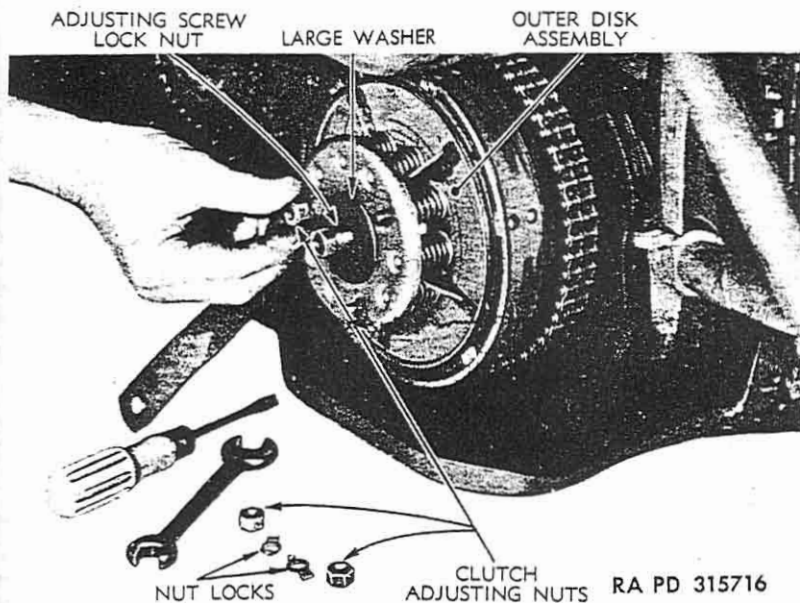
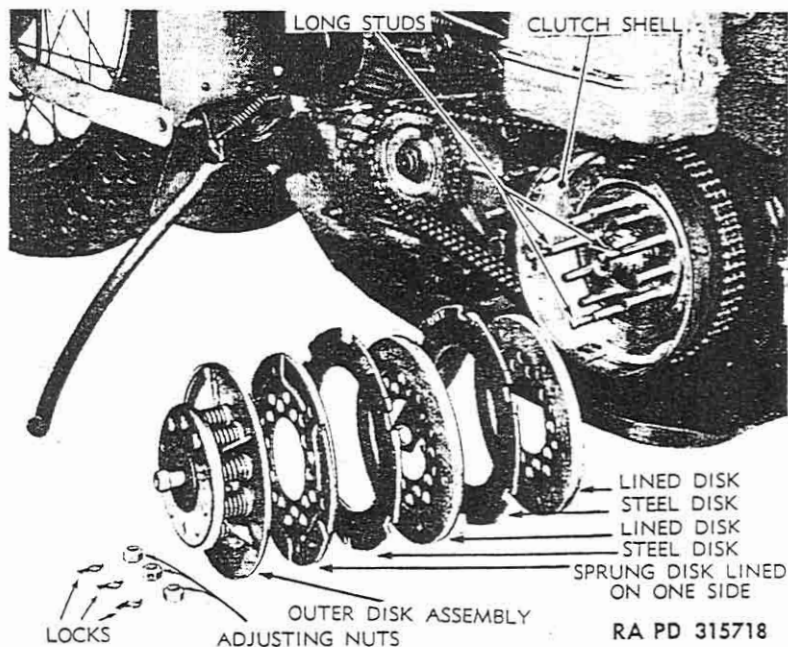

Figure 28—Removing Spring and Outer Disk Assembly
Figure 30—Clutch Disks, Removed
(7) If clutch still does not hold, after correct control and spring tension adjustments have been made, clutch "pack" assembly must be replaced (par. 49).
(8) After making clutch spring tension adjustment, replace outer front chain guard (par. 102).
49. REMOVAL OF DISKS (figs. 28, 29, and 30).
(1) Remove outer front chain guard (par. 102).
(2) Remove push rod adjusting screw lock nut. Place a large flat washer, approximately $\frac{1}{8}$ -inch thick, $1\frac{3}{4}$ -inch in diameter with a $\frac{3}{8}$ -inch center hole, over push rod adjusting screw, and replace adjusting screw lock nut just removed (fig. 28). Tighten adjusting screw lock nut against large washer until the three clutch spring adjusting nuts are free. Bend nut lock down, remove the three adjusting nuts, and withdraw releasing (outer) disk and spring assembly as one unit. Remaining lined and plain steel disks can now be removed from sprocket and clutch shell unit without further disassembly (fig. 30). *NOTE: At time lined and plain disks are removed from shell, observe relative position of each disk in order of correct assembly.*
(1) To remove springs, remove push rod adjusting screw lock nut, freeing spring collar and the 10 springs from the releasing (outer) disk assembly.
(2) Measure springs for free length. Free length of new clutch springs is approximately $1\frac{1}{2}$ inches (they may vary plus or minus $\frac{1}{32}$ inch). Old springs found to be shrunk $\frac{1}{8}$ inch (total free length of spring is $1\frac{3}{8}$ inch or less) must be replaced with new springs. *NOTE: Before replacing springs, select 10 springs that do not vary more than $\frac{1}{32}$ inch to make up the assembly.*
51. INSTALLATION OF DISKS (figs. 30, 29, and 28).